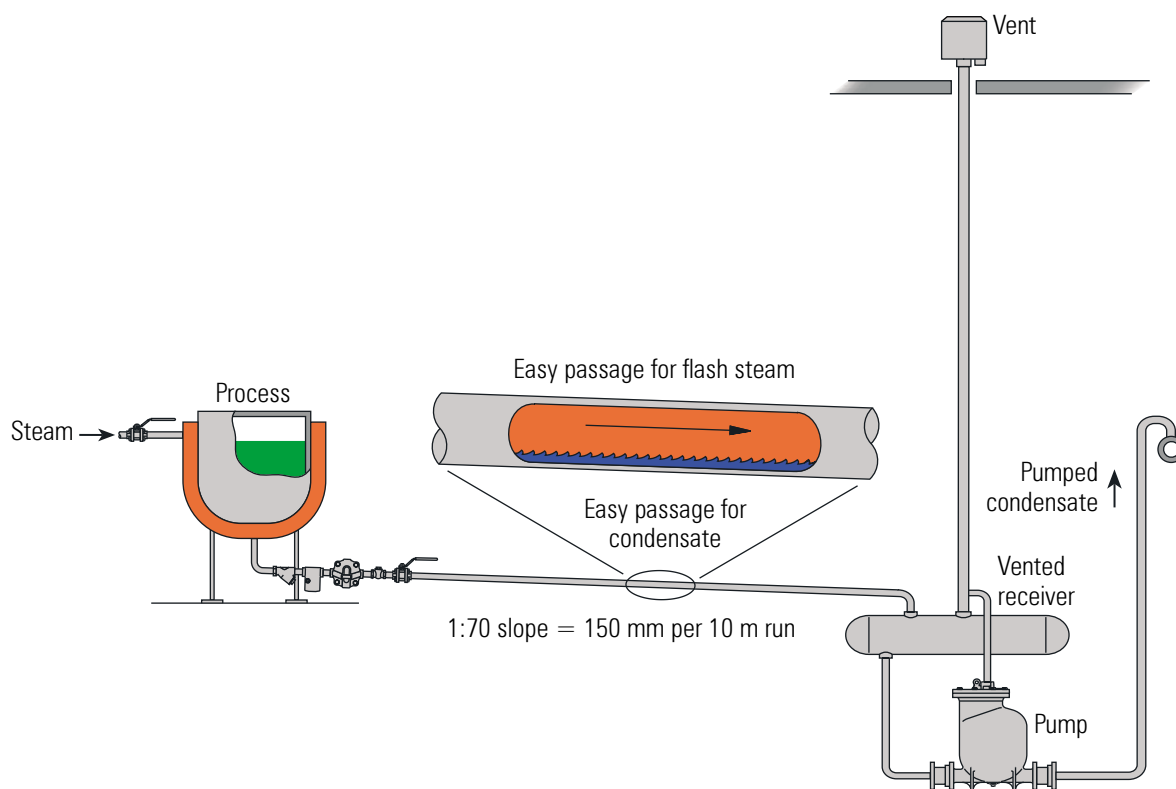

Fig. 14.3.3 Discharge line sloping 1:70 in the direction of flow
1. Correctly sized trap discharge lines which slope in the direction of flow and are open-ended or vented at a receiver, will be non-flooded and allow flash steam to pass unhindered above the condensate (Figure 14.3.3). A minimum slope of 1 in 70 (150 mm drop every 10 m) is recommended. A simple visual check will usually confirm if the line is sloping - if no slope is apparent it is not sloping enough!